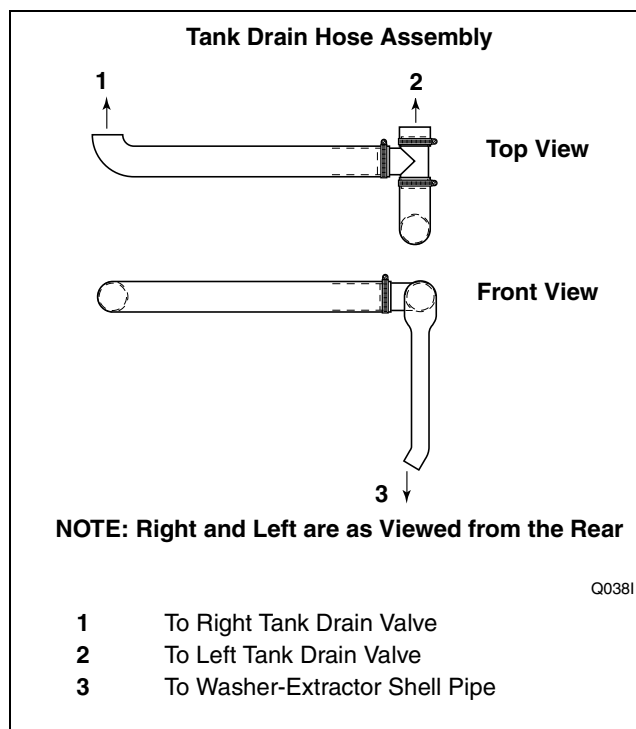

Figure 4
- a. Remove tank drain hose assembly from packaging. Slide drain hose over tank drain valves and washer-extractor shell pipe. Install large hose clamps on drain valves and small hose clamp on shell pipe and tighten. Refer to *Figures 4 and 5*.